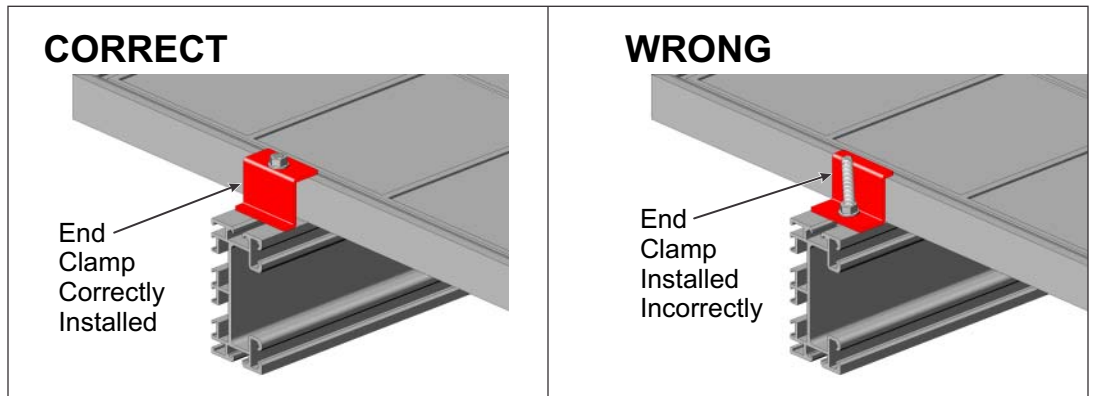
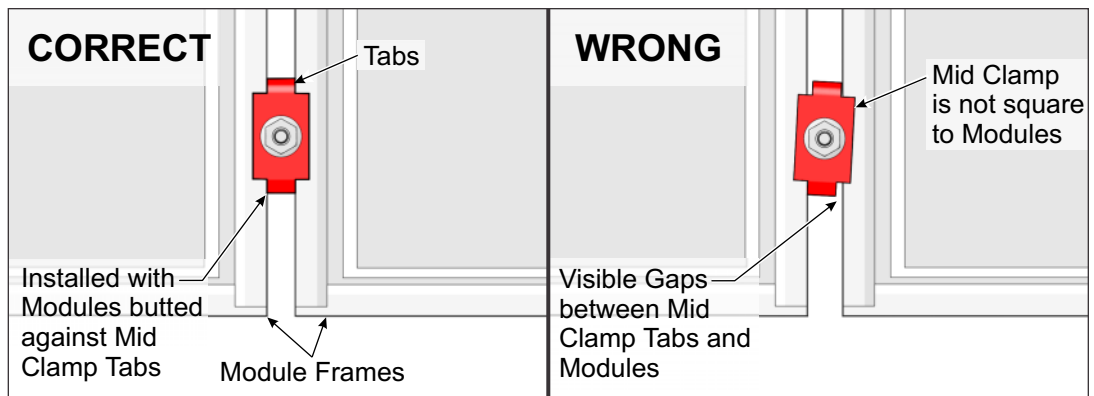

Figure 4-1: Correct and Wrong methods of installing Standard End-Clamp (using Carriage or RAD Bolts)
Figure 4-2: Correct and Wrong methods of installing a Mid Clamp (using Carriage or RAD Bolts)
There is only one correct method of installing End Clamps and Mid Clamps. Failure to follow the correct method could lead to personal injury, structural failure, and/or damaged components. See Figure 4-1 for proper method of installation for an End Clamp and Figure 4-2 for the Mid Clamp. Refer to these figures during the installation of the Modules to prevent any undue problems associated with an improper installation.
- B. Insert one 5/16" x 2, 2-1/4, 2-1/2 or 2-3/4" carriage bolt into the top slot of the Power Rail. Push the bolt against the side of the module frame. Install End Clamp onto bolt and secure with 5/16" flange nut. **Torque to 14-16 ft.-lbs.** (See Figures 4-1 and 4-3)
- E. Push Modules against Mid Clamp tabs and secure Mid Clamp with 5/16" flange nut. **Torque to 14-16 ft.-lbs.** (See Figures 4-2 and 4-5)
- B. Insert one 5/16" x 2, 2-1/4, 2-1/2 or 2-3/4" RAD bolt into the top slot of the Power Rail. Push the bolt against the side of the module frame and twist to lock in place. Install End Clamp onto bolt and secure with 5/16" flange nut. **Torque to 14-16 ft.-lbs.** (See Figures 4-1 and 4-6)
- F. Push Modules against Mid Clamp tabs and secure Mid Clamp with 5/16" flange nut. **Torque to 14-16 ft.-lbs.** (See Figures 4-2 and 4-7)